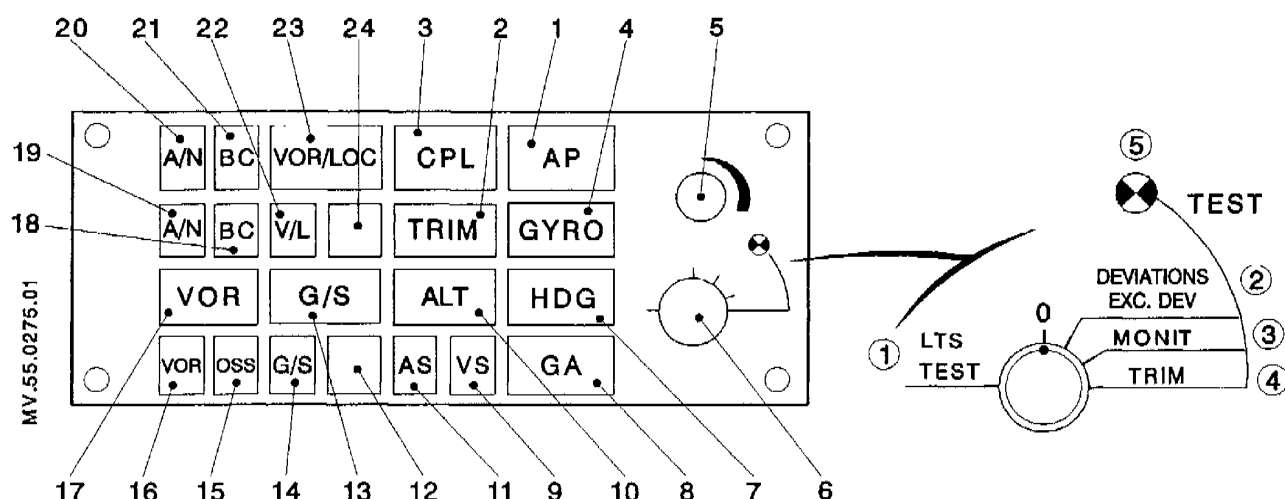

Figure 5
1.8 AP/CPL monitoring panel (Figure 5)
(Detail on Figure 5) - Test selector switch set to 0 - Pitch, roll and yaw channels engaged. - Four-way beep trim button : successively actuate in each direction. - Switch off autopilot through A.P. release push-button on pilot's cyclic stick. - Then repeat this test through same push-button on copilot's cyclic stick if fitted, after re-engaging the three auto-pilot channels. | <ul style="list-style-type: none"> - Captions on control panel (Fig.1) illuminate. - Captions on monitoring panel (Fig. 5) illuminate (2.5-second time delay) - Test function caption (5) (Detail on Fig. 5) illuminates. - Test function caption (5) (Detail on Fig. 5) extinguishes. - P, R, Y, MONIT. push-button lights illuminate (Fig. 1). Captions (4) below galvanometers extinguish (Detail on Fig.2). - Check cyclic stick and relevant galvanometer pointer move in the right direction. - Captions below galvanometer illuminate. - AP caption (Fig.5) flashes for 10 seconds. - Captions on control panel (Fig. 1) extinguish. |
| <ul style="list-style-type: none"> - Pitch channel engaged - Test selector switch set to TRIM, position 4 (Detail on Fig.5). - Test selector switch set to 0 - Disengage pitch channel | <ul style="list-style-type: none"> - Relevant ON push-button light (Fig.1) illuminates - TRIM caption light (Fig.5) flashes - alternate displacements of the cyclic stick. - P push-button light (Fig. 1) extinguishes |
| <ul style="list-style-type: none"> - Pitch channel engaged - Actuate four-way button to offset cyclic stick in pitch - Test selector switch set to MONIT position 3 (Detail on Fig. 5) - Test selector switch set to 0 - Roll channel engaged. | <ul style="list-style-type: none"> - Pitch push-button light illuminates. (Fig. 1) - MONIT push-button light illuminates (Fig.1). - Cyclic stick moves in the selected direction - Cyclic stick stops moving. - Galvanometer re-centers - AP warning light flashes (Fig. 5) - CYRO warning light illuminates (Fig.5) - MONIT push-button light flashes (Fig. 1) - Pitch push-button light extinguishes (Fig. 1) - Roll push-button light illuminates (Fig. 1) - MONIT push-button light illuminates (Fig. 1). |
- Test selector switch set to Deviations or Exc. Dev. (Excessive Deviation) position 2 (Detail on Fig. 5). - Test selector switch set to 0 (Detail on Fig.5)
- Disengage autopilot | <ul style="list-style-type: none"> - Cyclic stick and pointers of Flight Director (F/D) move nose-up and right - CPL caption flashes for 10 seconds (Fig. 5) - Coupling function captions extinguish (Fig. 5) - Re-center the cyclic stick. - Captions 12 and 24 on monitoring panel (Fig. 5) flash. R
- Test caption extinguishes (Item 5, Detail on Fig. 5) |